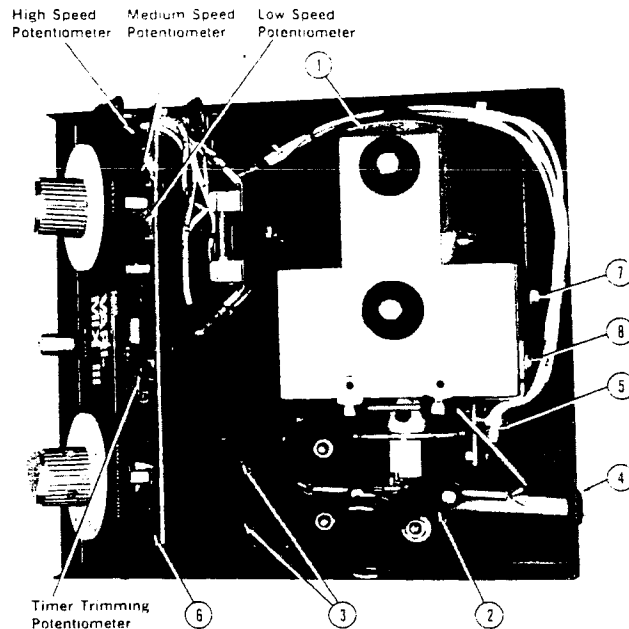

Figure 1. Component Removal — Right Side
The Caulk Vari-Mix III Amalgamator has four major components: a speed and timer control board, an electric motor, a capsule holder assembly, and a voltage dropping reactor. See Figure 1.
4. RETAINER AND COUPLING ASSEMBLY REPLACEMENT — See Figure 1.
- a. Detach the mounting screws (8) of the photo interrupter (5) and pull the photo interrupter away from the timer hub.
- Refer to Figure 1 for identification of the timer trimming potentiometer (NOTE: The references to the clockwise and counterclockwise rotations are looking from above the unit down onto the potentiometer.)